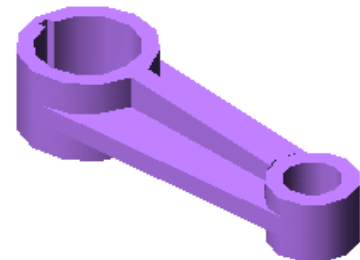

Figure Step 2A
Step 2 On layer: Solid 2, draw a solid model of the object shown in the figures. (Figure Step 2A and 2B)